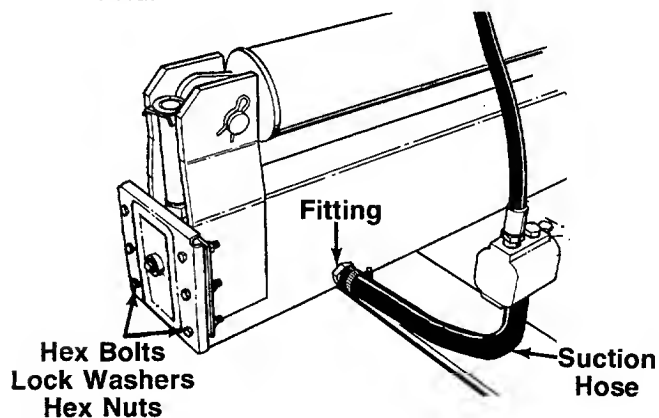

FIGURE 11.
Change the hydraulic fluid in the reservoir every 100 hours of operation. Remove the six hex bolts, lock washers and hex nuts which hold the end plate to the beam. See figure 11. Remove the plate, and drain the fluid into a suitable container. Refill using only Dexron II automatic transmission fluid, as instructed in the "Initial Preparation" section of this manual, page 6. Also, make certain to clean the strainer tube assembly.
1. Loosen the hose clamp on the suction hose at the beam. See figure 11. Disconnect the hose from the beam.